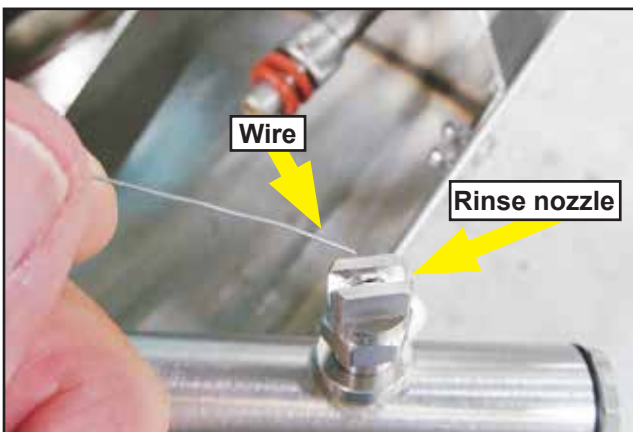

Fig. 75 -
- 3 Use fine piece of wire and clean the rinse spray nozzles to ensure they are not clogged with scale build-up, Fig. 75.